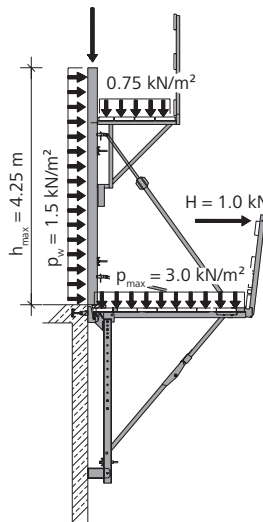

Fig. 22.2
- Working scaffold and formwork supported by the platform (Fig. 22.2)